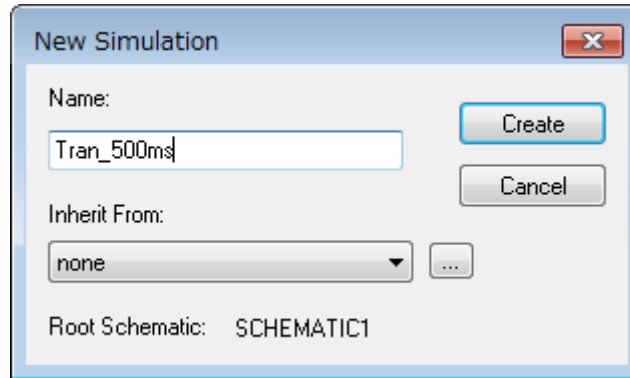

Figure 5.2 New Simulation dialog box
1. From the menu bar of OrCAD® Capture, select **PSpice - New Simulation Profile**. Then, the New Simulation dialog box shown in Figure 5.2 appears. Enter an arbitrary profile name and click **Create**.